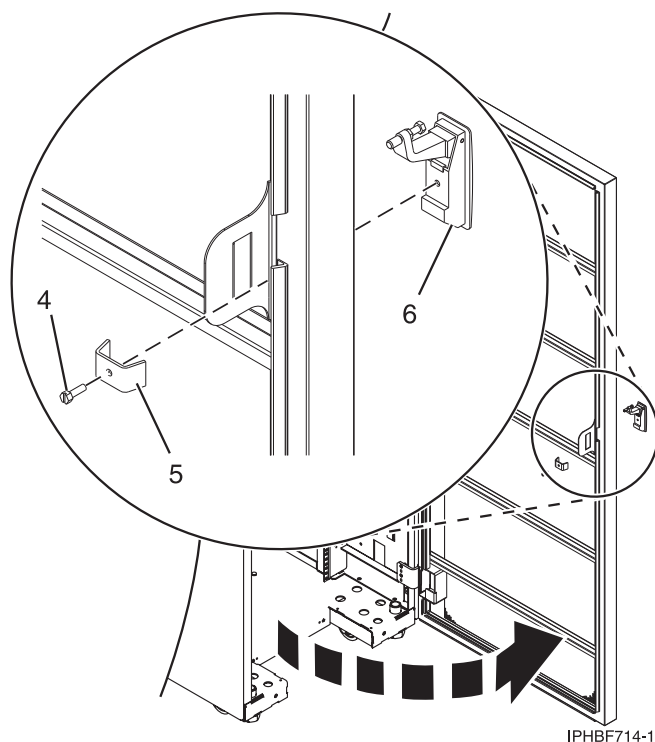

Figure 111. Removing the existing door latch
- b. On the inside of the door, remove the screw (4) in Figure 111, that secures the lock to the rack door.
- c. Remove the bracket (5).
- d. From the outside of the door, remove the door latch (6).
- a. Insert the keyed rack lock into the latch slot on the front of the door (6) in Figure 111.
- b. Secure the lock by attaching the lock bracket (5) with the screw (4), on the inside of the door.